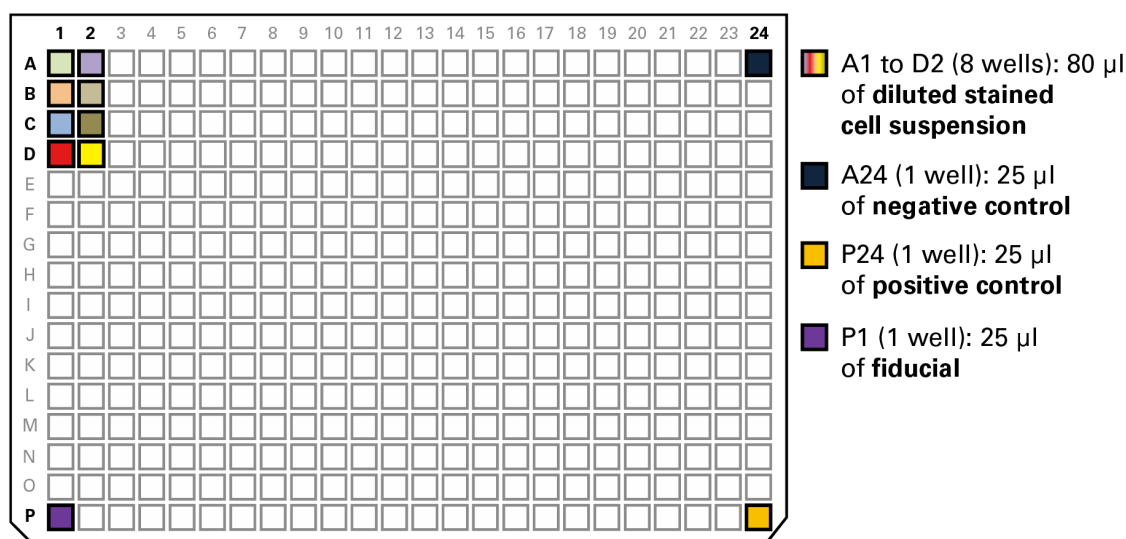

Figure 10. Setting up the 384-well source plate for dispensing cell samples and controls.
**The 1,000 μ l total volume of diluted stained cell suspension is sufficient for distributing 80 μ l of cell suspension in each of eight source wells (see Figure 10, below).
6. Using a 200 µl pipette tip, slowly and carefully load 80 µl of cell suspension into wells A1, A2, B1, B2, C1, C2, D1, and D2 of an MSND 384-Well Source Plate as indicated in Figure 10 (below).
7. Add Positive Control, Negative Control, and ICELL8 Fiducial Mix (1X) to the 384-well source plate as indicated in the following steps and in Figure 10 (below):